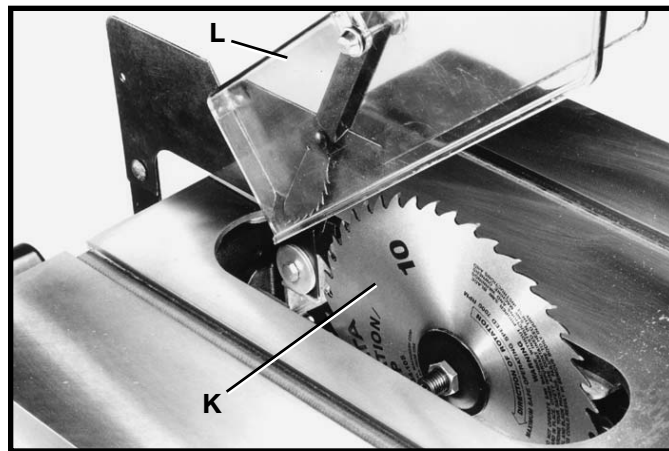

Fig. 35
9. With the blade guard (L) Fig. 35, in the raised position, assemble the saw blade (K) on the saw arbor with two arbor wrenches supplied.